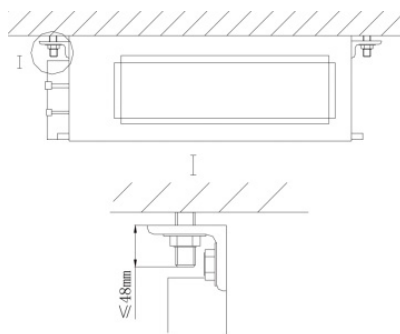

Figure 5: Installing the Indoor Unit
3. Install the indoor unit on the ceiling, as shown in Figure 5.